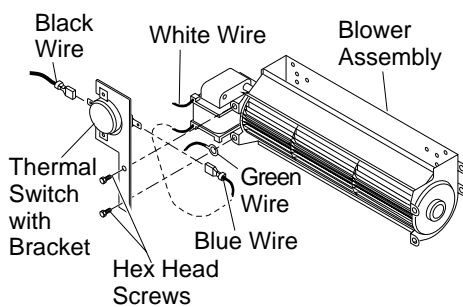

Figure 15 - Attaching Thermal Switch to CDA3620T Thermostatically-Controlled Blower Accessory
1. Remove the two hex head screws on the blower assembly as shown in Figure 15.